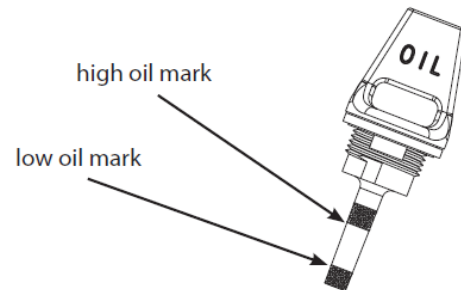

Figure 11
4. Fill with appropriate oil to "FULL" or top line of dipstick (**Figure 11**).